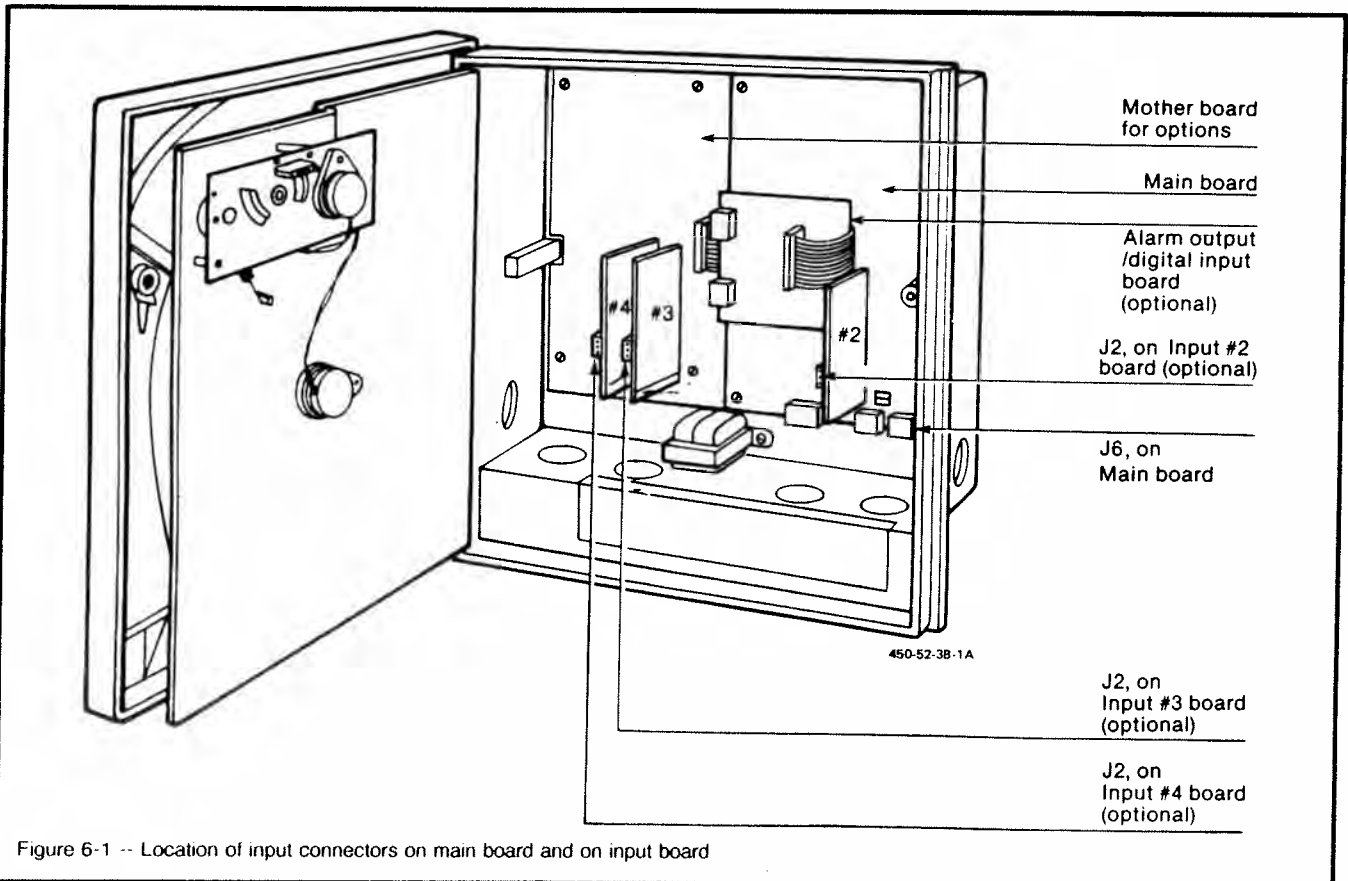

Figure 6-1 -- Location of input connectors on main board and on input board
1. Remove wired plug from input connector on applicable circuit board, as specified below. (See Figure 6-1 for location of circuit boards and input connectors.)